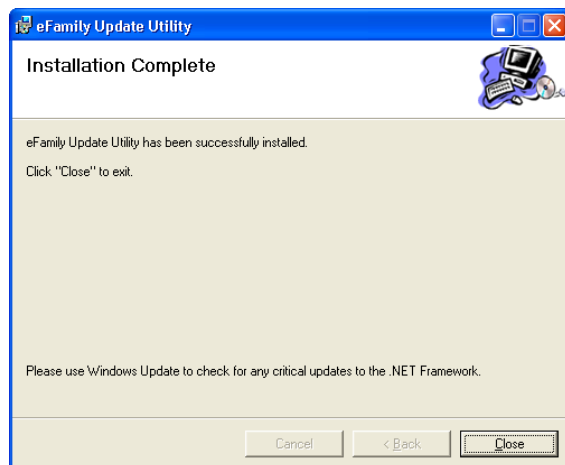

Figure A-3: Installation Complete Screen
5. Click the “Next” button. A screen displaying the progress of the installation process will be displayed. Then, an “Installation Complete” screen similar to that shown in Figure A-3 will be displayed.